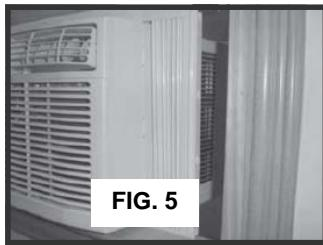
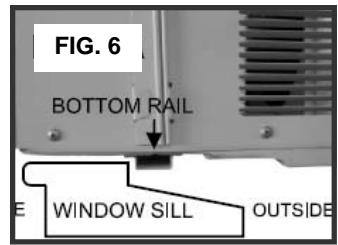

FIG. 5
FIG. 6
1. Place the air conditioner on the sill with the bottom mounting rail against its back edge. Center the air conditioner and close the window securely behind the top mounting rail. The air conditioner should be slightly tilted to the outside area. Use a level; about a 1/3 bubble will be the correct case slant to the outside. (See FIG. 5 & FIG. 6)